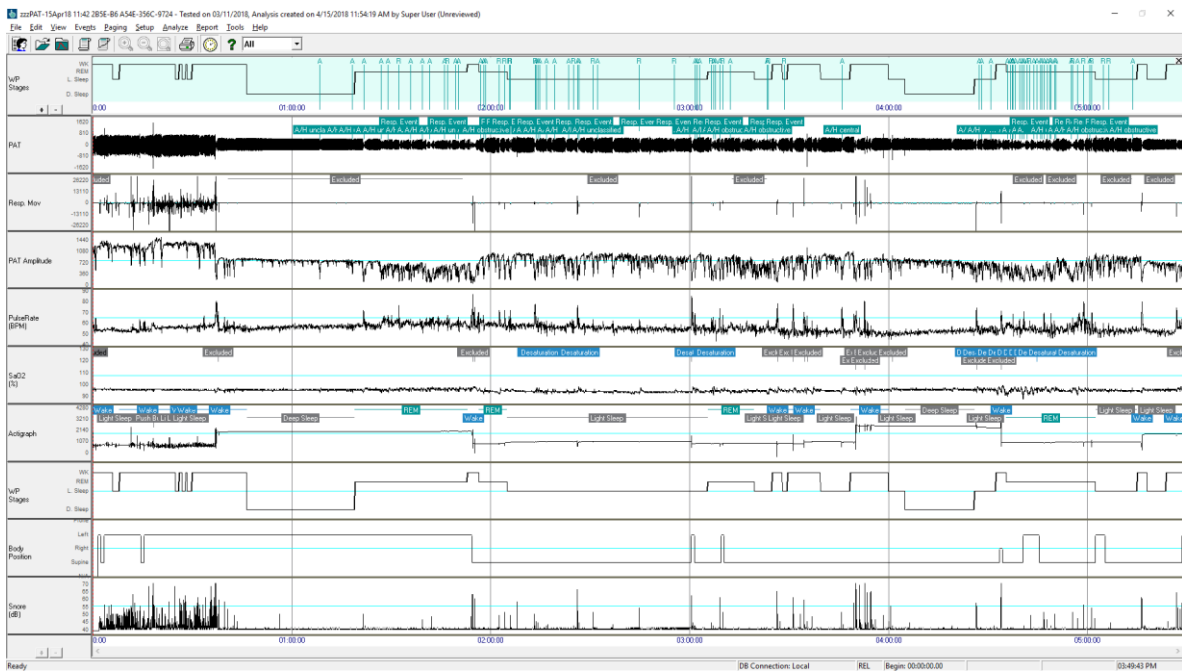

Figure 3 – A zzzPAT Analysis Program typical screen
3. The zzzPAT Analysis tool (see Figure 3) is a proprietary PC software utility used by your physician for initializing the study, retrieving, analyzing and displaying the data. More information is provided by the zzzPAT Software User Manual.